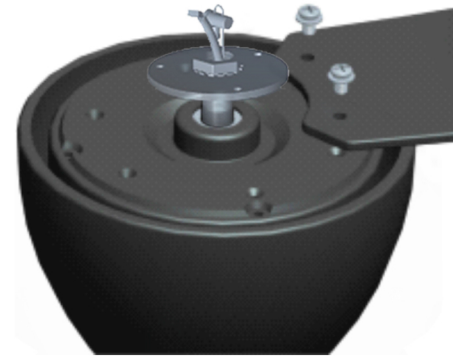

Fig. 2.1
2.1 Locate the 6 blade attachment screws included in the hardware pack. Use these screws to firmly attach each blade to the motor hub, as demonstrated in Fig. 2.1.